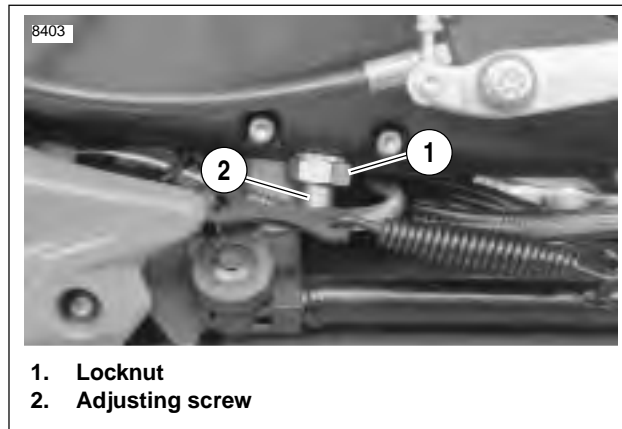

Figure 1-30. Chain Tension Adjusting Fastener
1. See Figure 1-30. Loosen locknut (1).
2. Turn adjusting fastener (2):
3. Tighten locknut (1) to 20-25 ft-lbs (27-34 Nm).